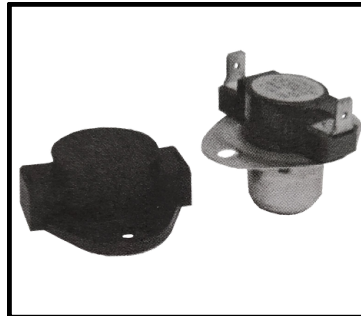

Fig. 1
1. Remove old limit control switch and rubber boot (if included) and discard. See Fig. 1.